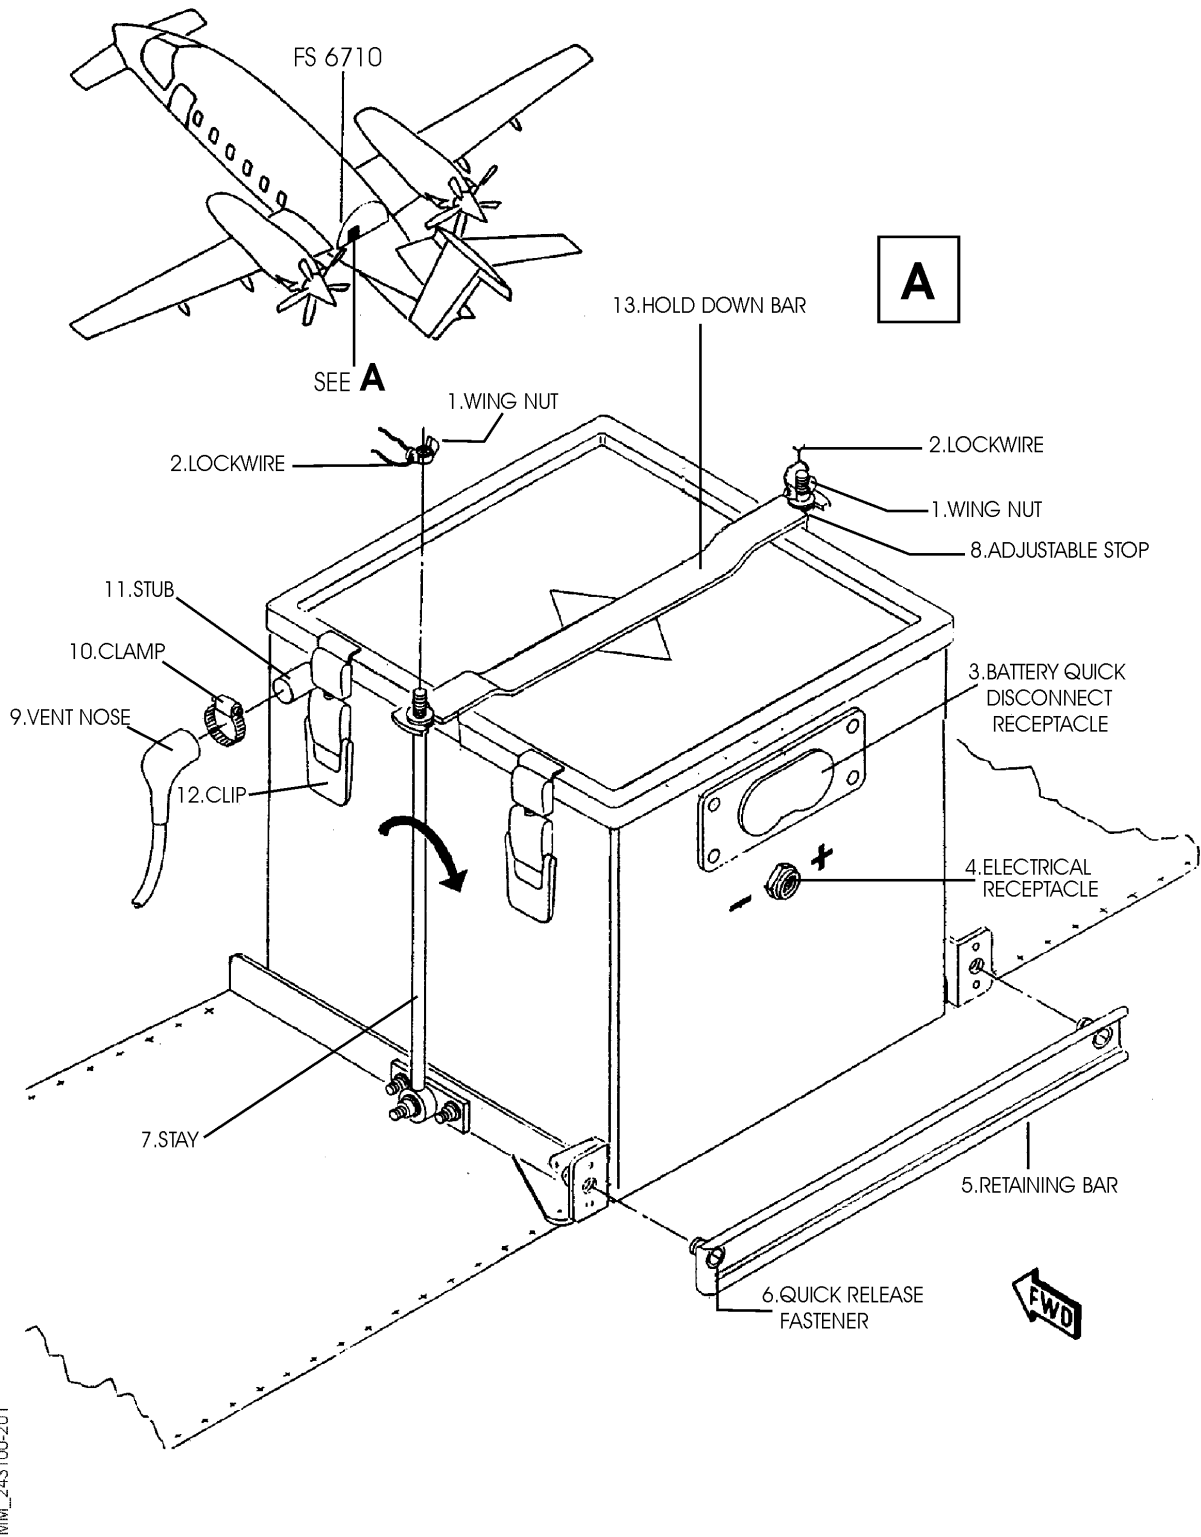

Fig. 201 - Battery - Removal/Installation
2. Battery - Removal (Ref. Fig. 201)
3. Battery - Installation (Ref. Fig. 201)